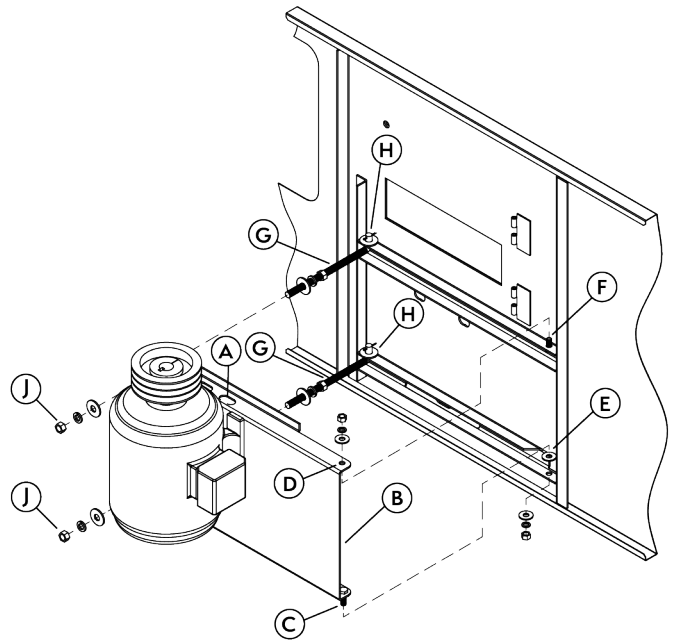

Figure 15 - External Motor Installation
1. Study **Figure 15** before installing the motor base on the unit.
7. Install Powerband belt **K** (**Figure 15**) around fan sheave and motor sheave. Tighten belt by adjusting nuts on "J" bolts. Do not over tighten the belts. The center of the belt should deflect approximately 3/4" (19mm) with moderate hand pressure.